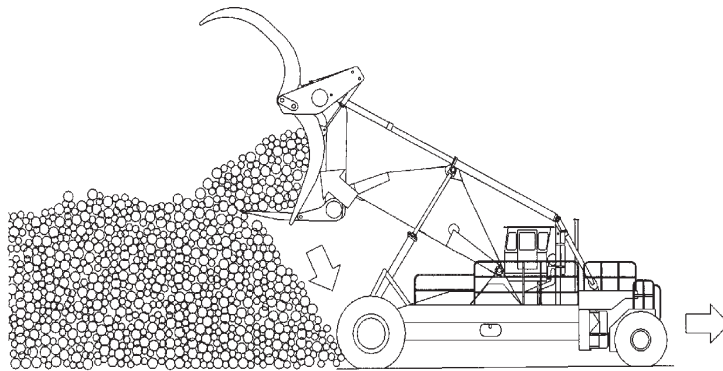

Fig. 5-15
- Move up to the deck with the load lifted to the necessary height. Place the drive wheel tires tight against the bottom logs, as this firms up the deck and helps prevent logs from shifting when you place the new load on top. See Fig. 5-15